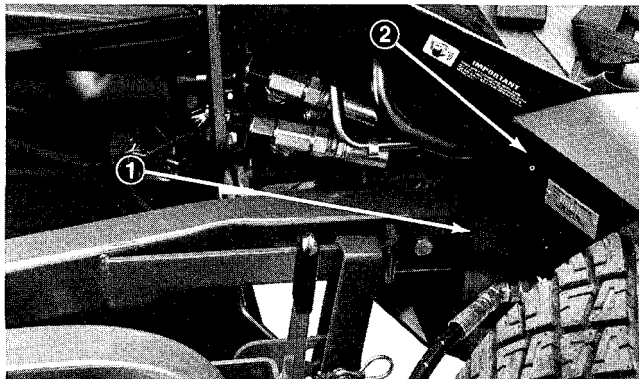

Figure 60
2. Disconnect (3) hydraulic lines (quick couplers) and wire harness at rear of deck.
4. Remove (2) capscrews and locknuts securing cutting unit carrier frames to traction unit lift arms (Fig. 60).